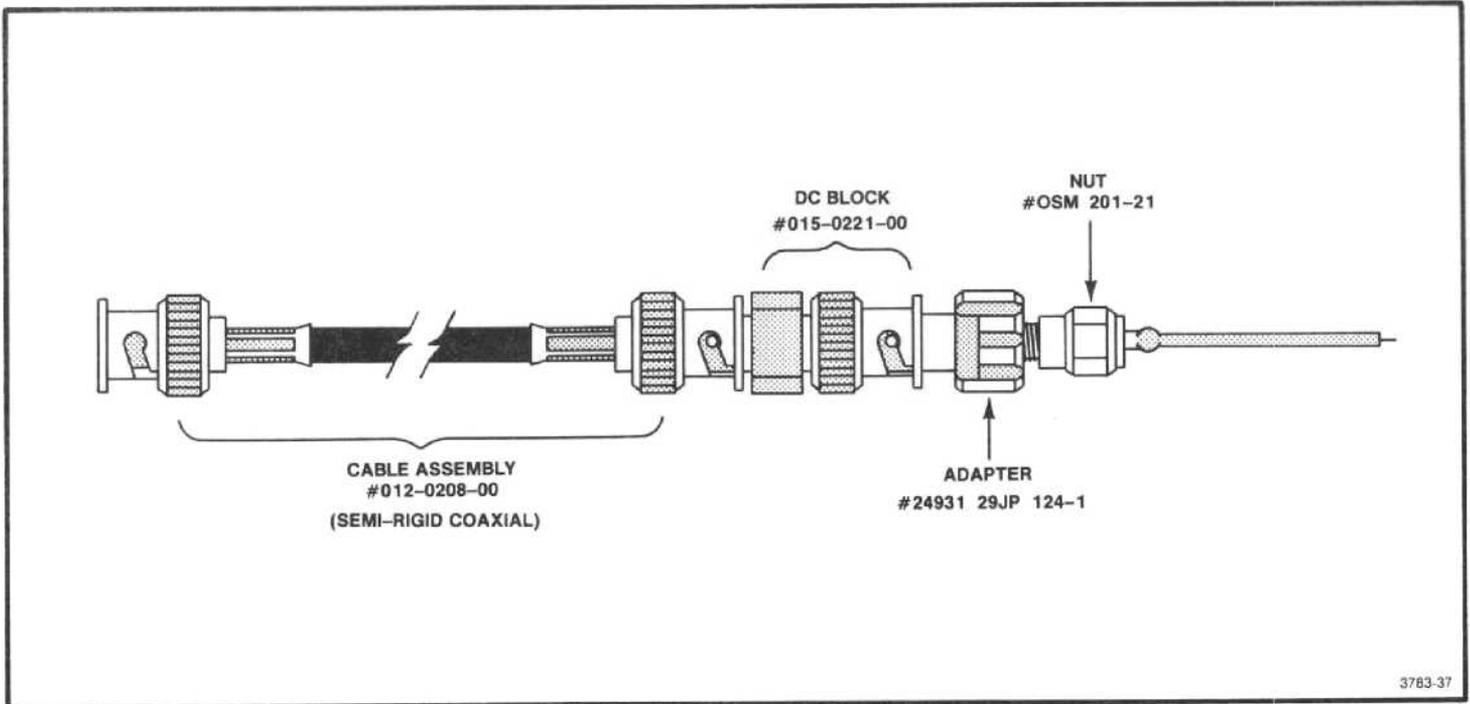

Figure 6-21. Construction details of a coaxial test probe for the 2182 MHz Phase Locked 2nd LO.
a. Use a probe, consisting of a short length of semi-rigid coaxial cable with a dc block (see Figure 6-21), to connect the output of the reference mixer at C2204 to the input of the test spectrum analyzer. Ground the outer shield of the coaxial cable against the 2nd LO housing.
When making power measurements of microwave circuitry, at circuit board interfaces, use a coaxial probe with very little stray inductance (see Figure 6-21). Ground the outer conductor of the probe to the circuit housing as close as possible to the measurement port. Disconnect other loads from the measurement point.